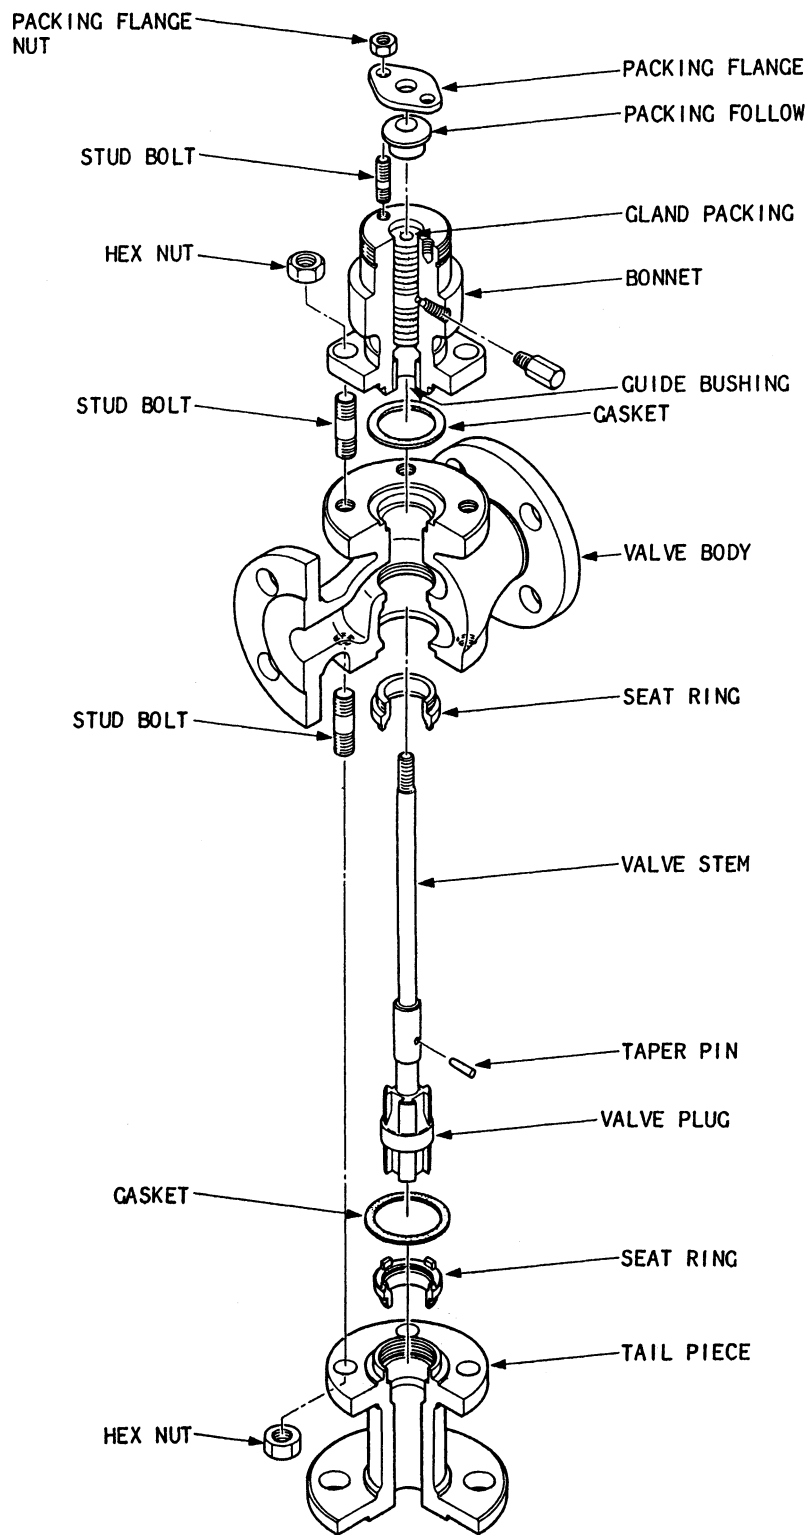
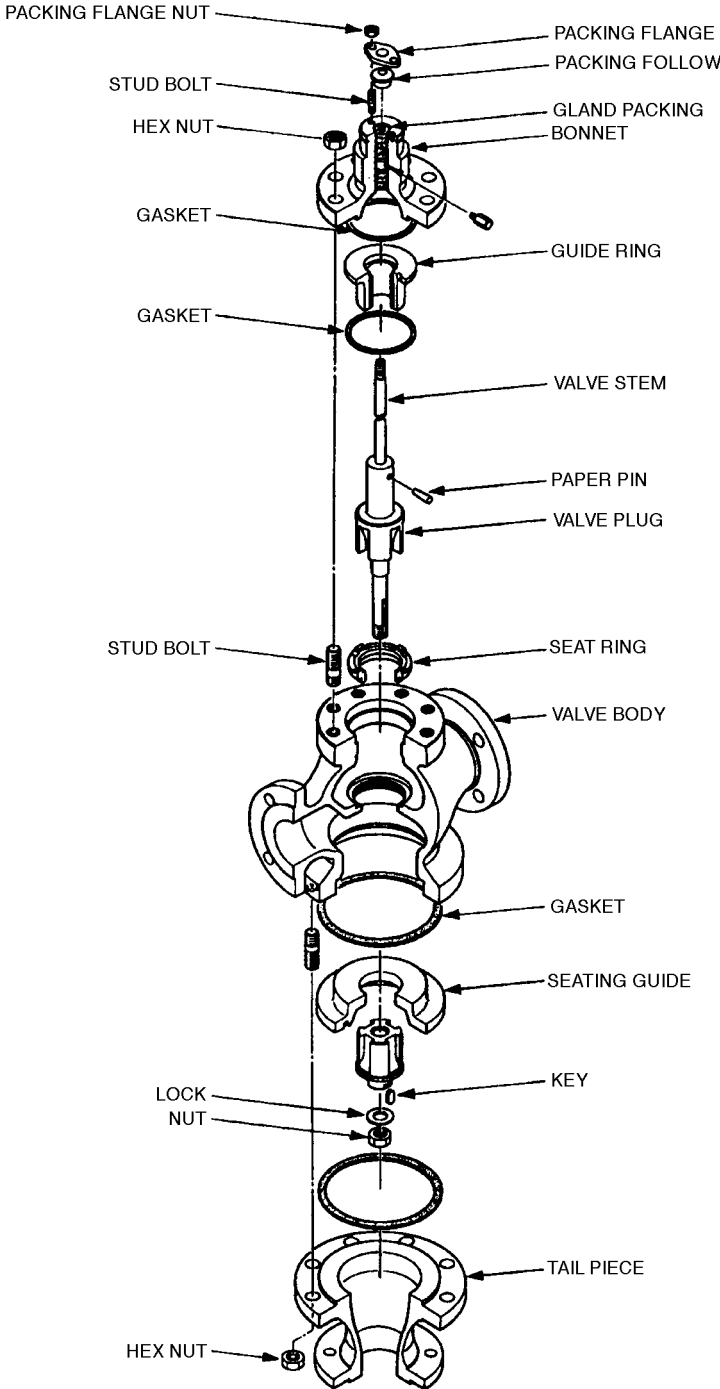

Fig. 4-1 Model AMT 1"
Fig. 4-4 Model HDT
To disassemble or assemble the valve body, refer to Fig. 4-1 through 4-4 and proceed as described below.
• AMT (Mixing) Type (Refer to Fig.4-1, 4-2, 4-3)
- (1) Apply an air pressure to the diaphragm so that the pointer indicates slightly below the position AB-B for direct acting actuator provided or indicates slightly above the position AB-A for reverse acting actuator and hold it in either case so that the valve plug does not touch the seat ring.
- (2) Remove the stem connector to separate the actuator stem from the valve stem.
- (3) Release an air pressure from the diaphragm and disconnect the air piping.
- (4) Remove the yoke nut by turning it with a chisel and detach (pull up) the actuator from the valve body.
- (5) Remove the tail piece from the valve body by loosening the bottom nuts on the body.
- (6) Pull down the seating guide from the valve body. However, for 1" valve, unscrew and remove the seat ring from the tail piece as required.
- (7) Loosen the gland packing flange nuts and remove the valve plug from the bottom of the valve body.
- (8) Remove the bonnet assembling nuts and pull out the bonnet.
- (9) To remove the seat ring, use the "special tool*" for mounting and removing the seat ring."
• HDT (Diverting) Type (Refer to Fig.4-4)
- (1) Apply an air pressure to the diaphragm so that the pointer indicates slightly below the position AB-A for direct acting actuator provided or indicates slightly above the position AB-B for reverse acting actuator and hold it in either case so that the valve plug do not touch the seat ring.
- (5) Remove the tail piece from the valve body by loosening the bottom nuts on the body. When doing this, be careful not to drop the seating guide lest the seating surface of valve plug B should be damaged.
- (6) Remove the bottom nut on the valve plug and pull the valve plug downward. Then pull down the seating guide.
- (7) Remove the bonnet mounting nuts and pull out the bonnet by loosening the gland packing flange nuts.
- (8) Pull upward the valve plug A and the guide ring.
- (9) To remove the seat ring, use the “special tool* for mounting and removing the seat ring.”
• AMT (Diverting) Type (Refer to Figs. 4-1, 4-2, 4-3)
- (6) Install the packing follower and packing flange, and tighten the nut. For the tightening torque, see Table 2-2.
• HDT (Diverting) Type (Refer to Fig.4-4.)